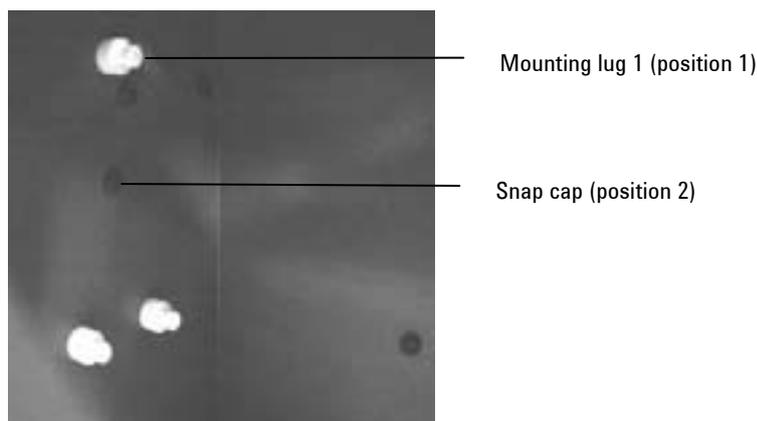

Figure 3. Sample compartment (left and rear walls shown)
If you are using an axial instrument follow the steps below, referring to Figure 3.
- 7 Take a small piece of excess sample pump tubing (approximately 1–2 cm in length) and insert it carefully into the sample end of the nebulizer. Cut a piece of polyethylene tubing (0.04 ID x 1.09 OD, cut to fit between the nebulizer and the peristaltic pump) and insert this as far as it will go into the pump tubing attached to the nebulizer (see Figure 3).